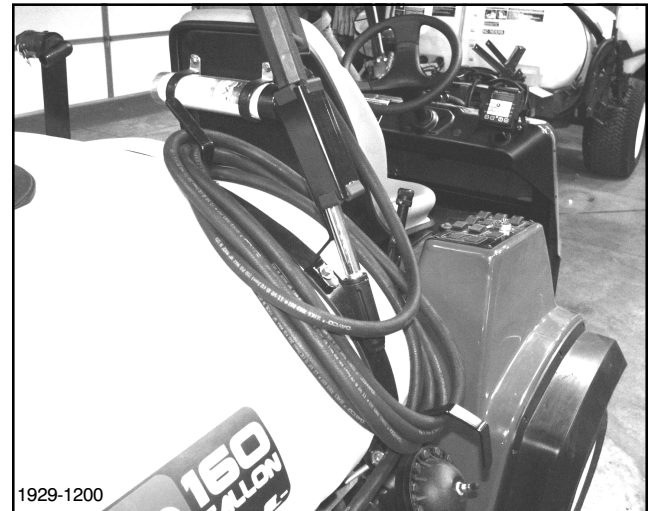

FIG. 3
6. Store Hand Sprayer as shown in FIG. 3.